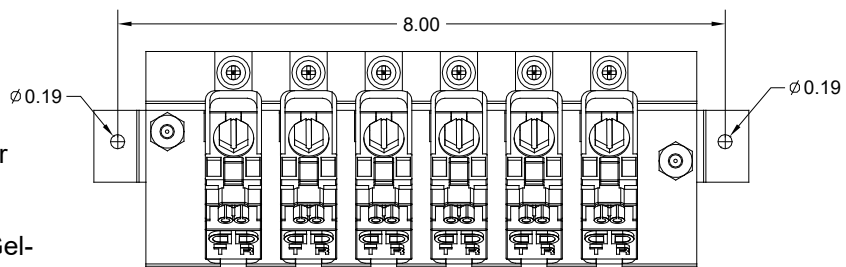

Figure 1
3.2 Using the (2) mounting holes on the 117S plate secure to applicable surface using 10-32 hardware (See Figure 1).